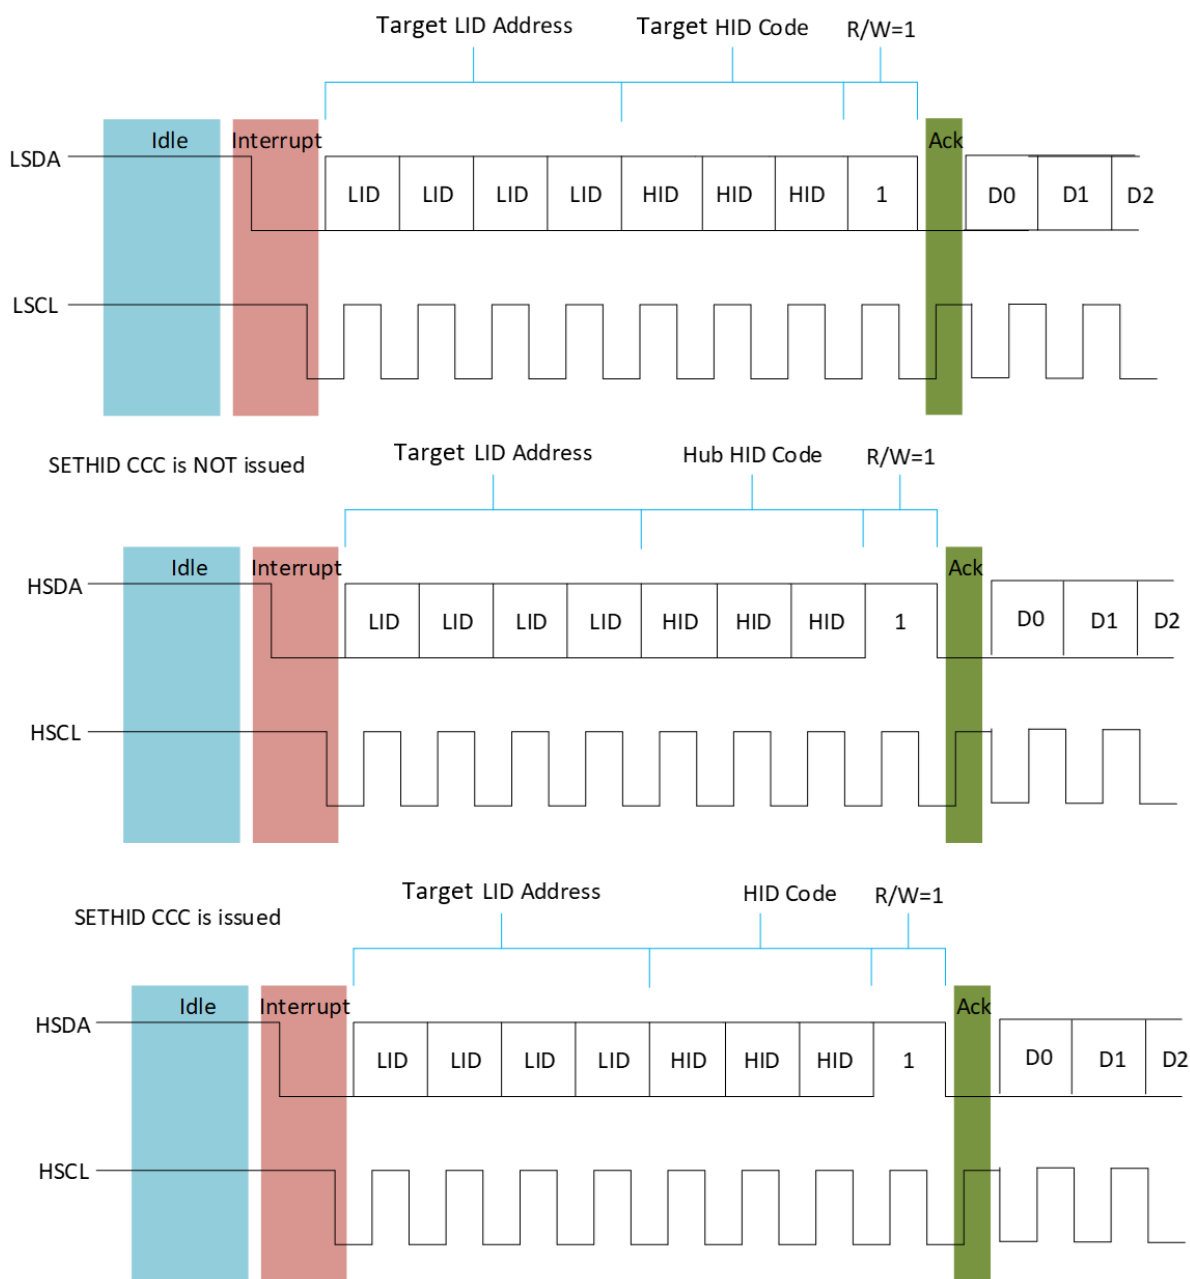

Figure 11 Local Device Interrupt - Host ACK Followed by Target Device IBI Payload
If the local device detects no START condition but if the Host to the local target device (through the SPD5 Hub device) bus (LSDA and LSCL) has been inactive (no edges seen) for  $t_{AVAIL}$  period, then any local device may assert LSDA low to request an interrupt. When the local device requests an interrupt, the SPD5 Hub device propagates the LSDA to HSDA to Host. The Host toggles the HSCL. The local device transmits its 7-bit binary address followed by R/W bit = '1' to the SPD5 Hub device. This is shown in **Figure 11** top waveform.
The SPD5 Hub device forwards LID bits it receives from the local device to the Host. The SPD5 Hub device substitutes its own HID code in place of the HID bits it receives from the local device and sends to the Host if Host has not issued SETHID CCC previously. This is shown in **Figure 11** middle waveform. The SPD5 Hub device forwards HID bits it receives from the local device to the host if Host has issued SETHID CCC previously. This is shown in **Figure 11** bottom waveform. The SPD5 Hub device forwards the R/W bit = '1' to the Host.
- a. The Host sends ACK on 9th bit to accept the interrupt request. At this point, if the local device confirms that it has won the arbitration, the local device transmits the IBI payload as shown in **Table 66** and **Table 67** for PEC disabled and PEC enabled configuration respectively. **Figure 11** just shows only first two data bits of MDB byte to illustrate the timing. The interrupt payload contains MDB followed by appropriate target device error register contents in order. The host then issues the STOP command. Note the timing waveform in **Figure 11**. The host then accepts the IBI payload if it sends an ACK on 9th bit to accept the interrupt request. The host can interrupt the IBI payload at T bit. If host stops the IBI payload at T bit in the middle of payload, the local device retains the IBI status flag and Pending Interrupt Bits [3:0] internally and waits for the next opportunity to request an interrupt. If the local device successfully transmits the entire IBI payload, it then clears IBI status flag and Pending Interrupt Bits [3:0] = '0000' on its own and does not request for an IBI again unless there is another different event occurs; for another same event, the device does not request for an IBI.